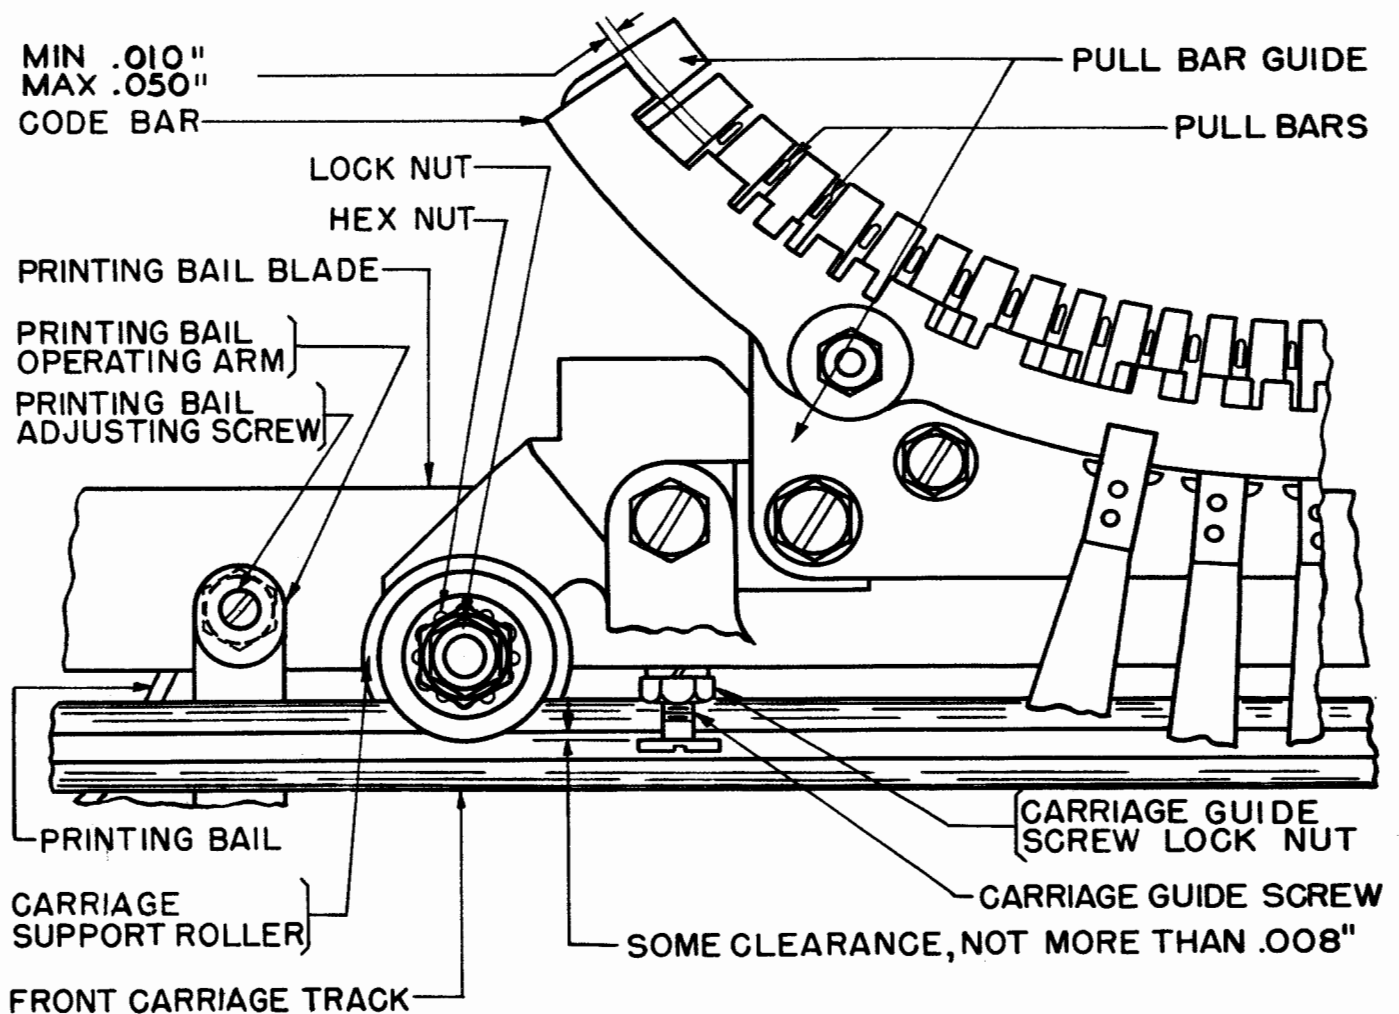

Figure 24
To Adjust the Rollers: Loosen the lock-nuts and position bearing cone or bearing nut. Be careful not to allow balls to fall out. See Figure 24.
2.41 **Pullbars** should clear the codebars by minimum 0.010 inch, maximum 0.050 inch when the mainshaft is rotated until the printing bail is in its extreme rear position and the play in the pullbars is taken up toward the code bars. See Figure 24.